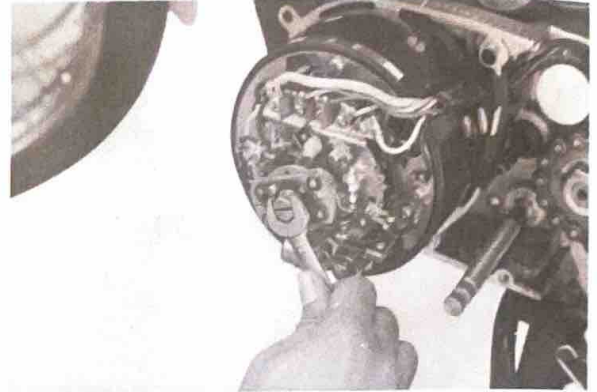

Fig. 6-5-13
- (2) Adjust ignition timing separately for the right and left cylinders.
- (3) Rotate the armature until the points are at their widest opening. Adjust point gap with a feeler gauge to 0.30~0.40 mm (0.011~0.016 in.). Repeat this procedure for each set of points. (Fig. 6-5-13)